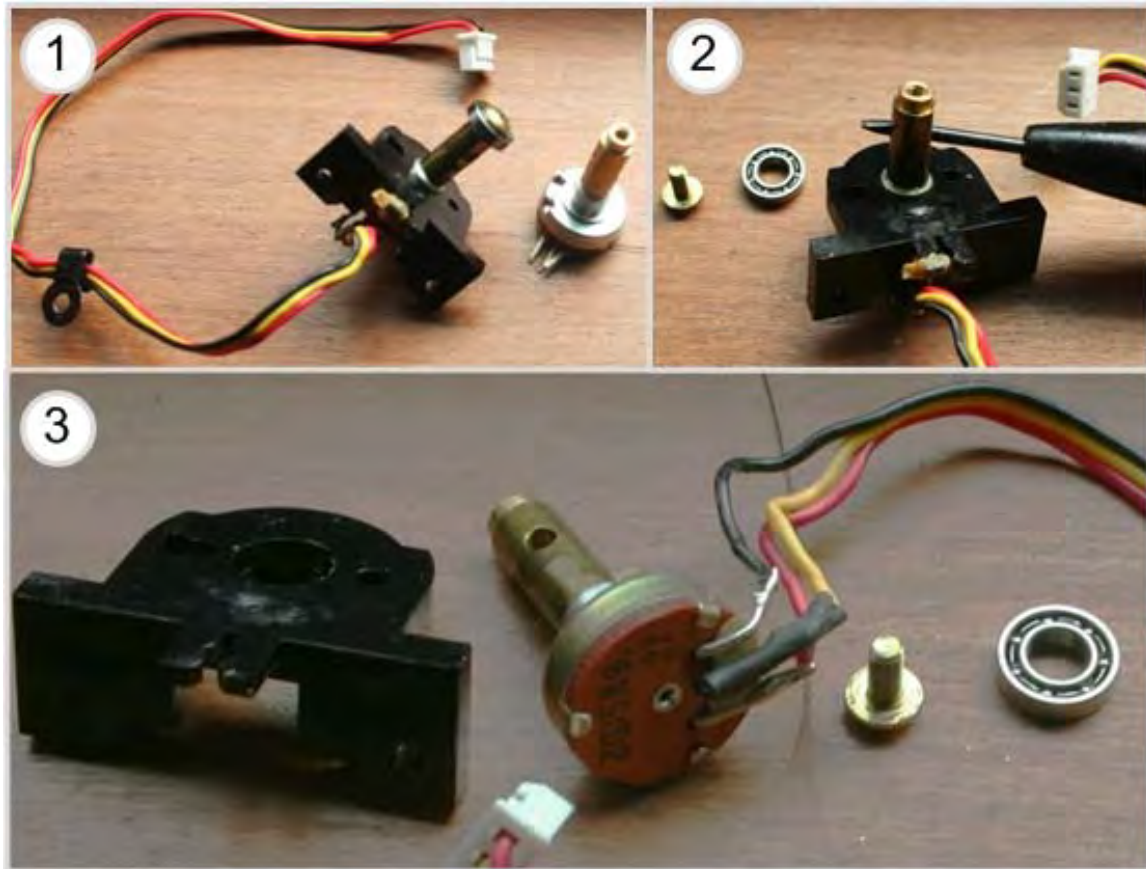

Figure 17 Unscrew the ball bearing from the horizontal axis POT
4. Unscrew the ball bearing at the end of the pot and remove the horizontal POT from the assembly (see Figure 17).